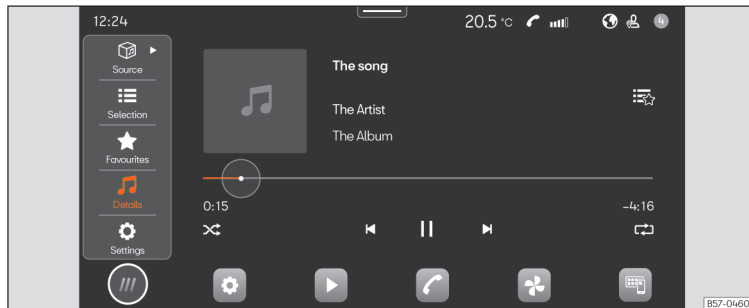

Fig. 135 Schematic diagram: Media view
- Press **HOME** > ► >>> **Fig. 135**.